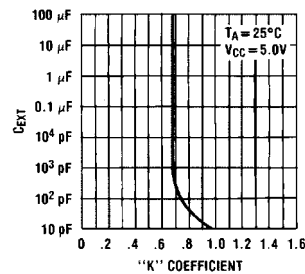

FIGURE 5.
- The "K" coefficient is not a constant, but varies as a function of the timing capacitor C_X. Figure 5 details this characteristic.
- Under any operating condition C_X and R_X must be kept as close to the one-shot device pins as possible to minimize stray capacitance, to reduce noise pick-up, and to reduce I X R and Ldi/dt voltage developed along their connecting paths. If the lead length from C_X to pins (10) and (11) is greater than 3 cm, for example, the output pulse width might be quite different from values predicted from the appropriate equations. A non-inductive and low capacitive path is necessary to ensure complete discharge of C_X in each cycle of its operation so that the output pulse width will be accurate.